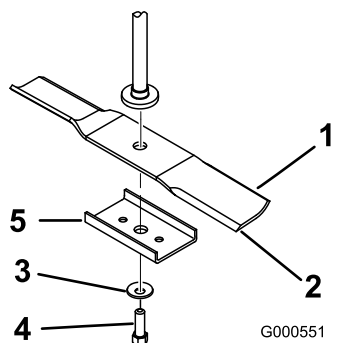

Figure 49
Hold the blade end using a rag or thickly-padded glove. Remove the blade bolt, curved washer, blade stiffener, and blade from the spindle shaft (Figure 49).
1. Install the blade onto the spindle shaft (Figure 49).
2. Install the blade stiffener, the curved washer (cupped side toward the blade) and the blade bolt (Figure 49).